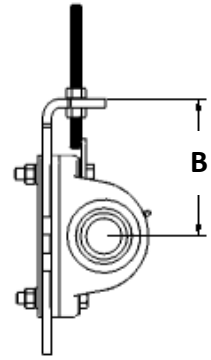

Figure 7-16: Apron/Paddle Shaft Chain Tension
- Tighten the shaft mounting bolts and the jam nuts on the adjusting bolts. Set the same dimension (B), shown in Figure 7-16, on both sides and secure the mounting fasteners in position. On wide-frame harvesters, set the same dimension (B) on the center mount as on the outer mounts.